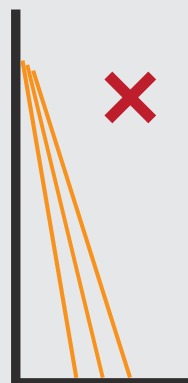

Figure 2.
- Atlon MGO boards should be stored on the manufacturer's pallets to ensure sheets remain flat, do not store the boards vertically. (Figure 2).